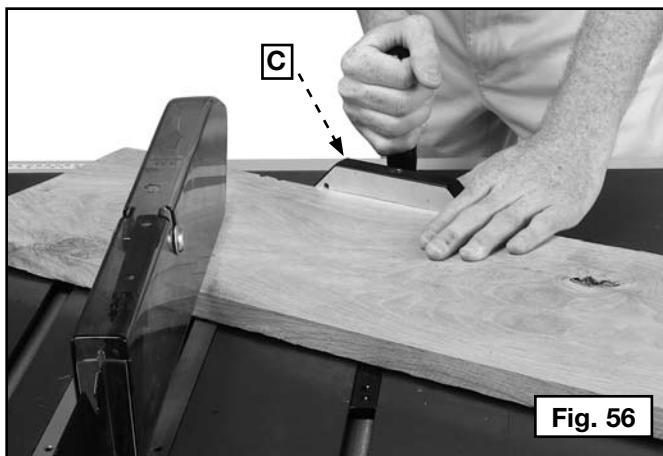

Fig. 56
Mitering (Fig. 56) is the same as crosscutting except the miter gauge (C) is locked at an angle other than 0°. Hold the workpiece firmly against the miter gauge and feed the work slowly into the blade to prevent the workpiece from moving.